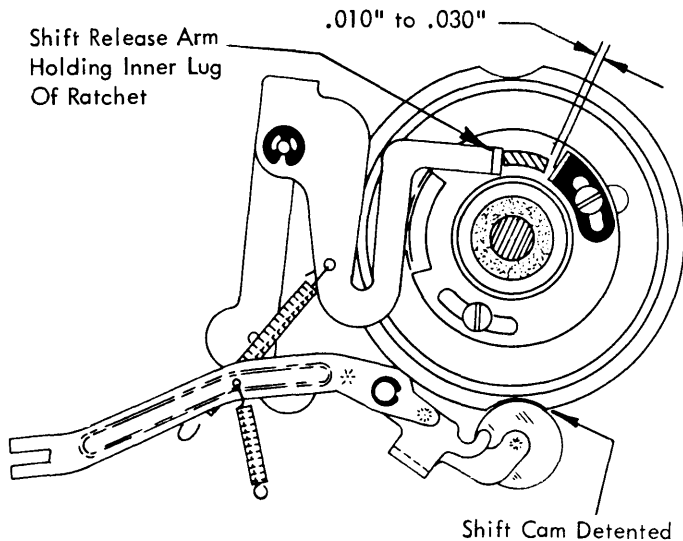

FIGURE 23. Shift Cam Stop Adjustment
2. Shift Clutch Spring Retaining Plate - Adjust the retaining plate attached to the shift cam (Fig. 21) to satisfy the following condition. With the machine turned OFF and the shift cam detented, the shift clutch ratchet should rotate 1/16" to 3/32" when the shift release arm releases the ratchet. The rotation can be observed relative to the shift interlock (Fig. 23). The distance from the center of one ratchet tooth to the next is 3/32".
3. Shift Cam Stop - Adjust the stop so that the shift clutch ratchet has .010" to .030" rotary motion between the shift cam stop and the shift release arm with the mechanism at rest (Fig. 23).